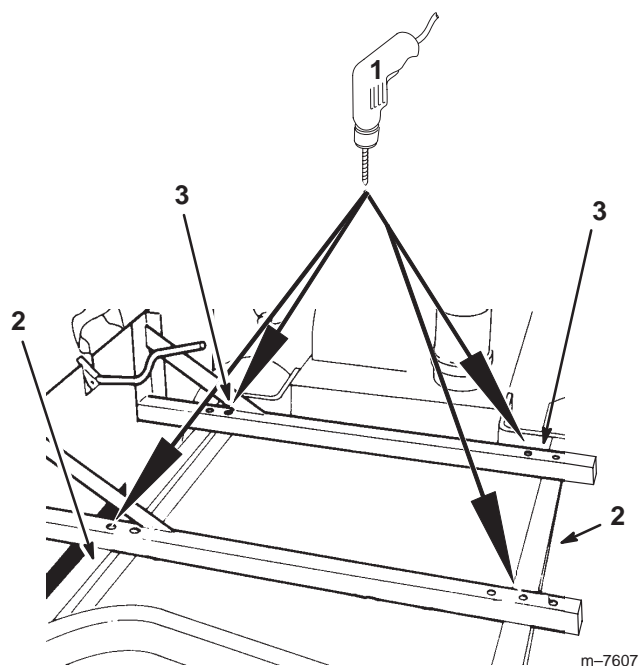

Figure 7
Note: For a 44 inch mower, drill the rear holes through the whole carrier frame (Fig. 7).
2. Using each mounting beam as a template, locate and drill four 1/2 inch diameter holes in the carrier frame, if no holes already exist (Fig. 7).
2. Remove the bolts, washers, and nuts securing the mounting beams to the carrier frame and remove the mounting assembly (Fig. 7).